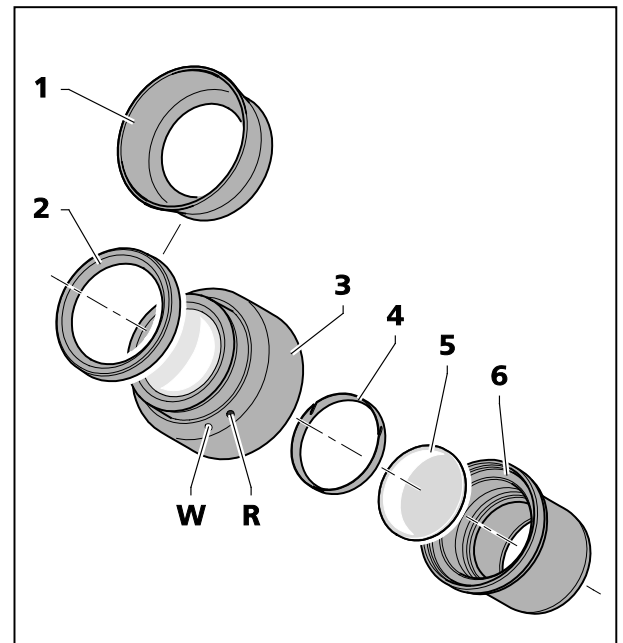

Fig. 12 Inserting the eyepiece plate
The eyepieces feature rubber protection rings for spectacles to avoid the spectacles being scratched. These rings may be replaced at choice by reversible eye cups (Fig. 12/1).
- To this effect remove the protection rings for spectacles (Fig. 12/2) from the eyepieces and position the eye cups (Fig. 12/1).
- Unscrew stop (Fig. 12/6) from the eyepiece (Fig. 12/3).
- Pull locking ring (Fig. 12/5) out.
- Insert eyepiece plate (Fig. 12/4).
The slight image offset which is due to the additional glass distance is taken into account on the diopter scale by the zero position not being indicated by the white dot (Fig. 12/**W**), but by a red dot (Fig. 12/**R**).